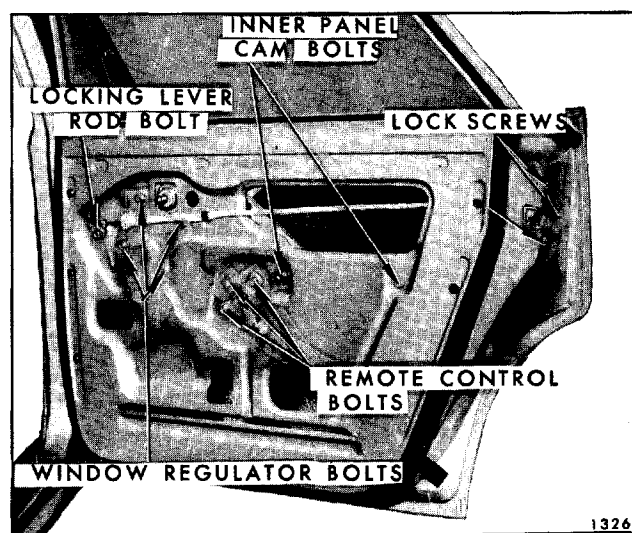

Fig. 7-162—Rear Door Hardware - "A" Styles Shown
4. Remove window regulator attaching bolts and move regulator assembly rearward to disengage lift arm rollers (and balance arm rollers on "A" Styles) from window lower sash channel cam and remove regulator through large access hole (See Fig. 7-162).